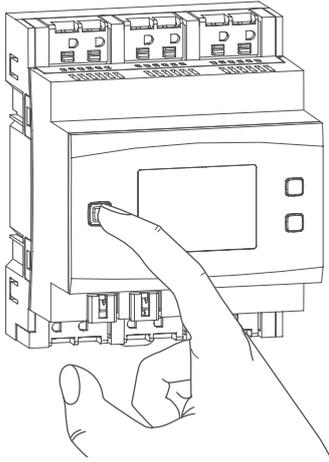

Figure 9
i You can manually start the pairing mode for another 3 minutes by pressing the system button (A) briefly (see figure 9).
- If connecting was successful, the LED (A) lights up green. The device is now ready for use.
By pressing the system button briefly (see „Figure 9“ on page 24), you can activate the LCD background lighting of all devices connected to the bus.